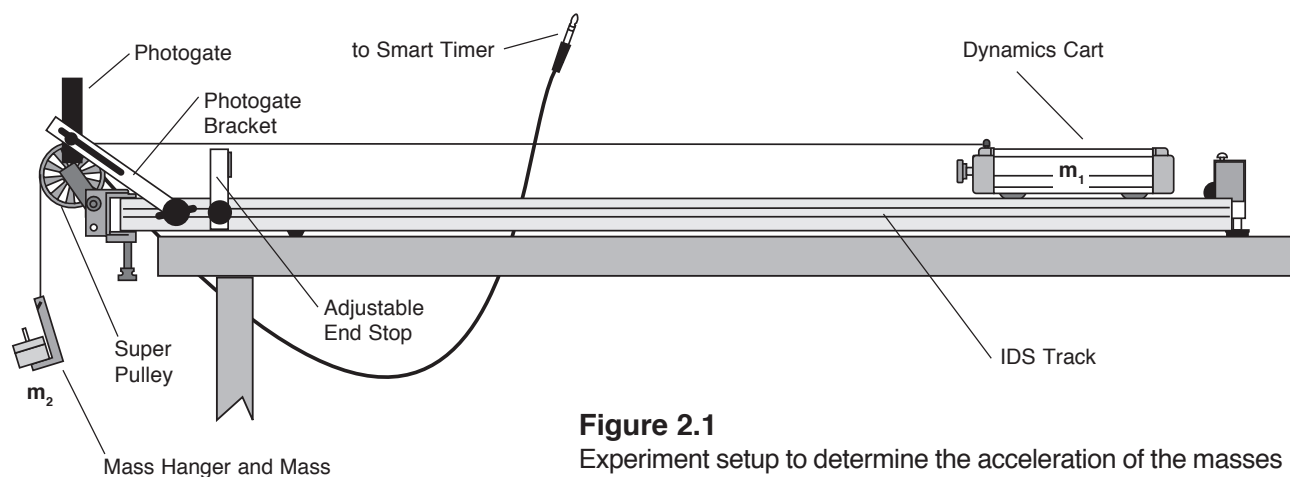

Figure 2.1
Newton's Second Law, $\mathbf{F} = \mathbf{ma}$, is a description of the relationship between \mathbf{F} , the net force acting on the object of mass \mathbf{m} , and \mathbf{a} , the resulting acceleration of the object. For a cart of mass \mathbf{m}_1 on a horizontal track with a string attached over a pulley to a mass \mathbf{m}_2 (see Figure 2.1), the net force \mathbf{F} on the entire system (cart and hanging mass) is the weight of hanging mass, $\mathbf{F} = \mathbf{m}_2\mathbf{g}$, assuming that friction is negligible.
3. Attach the Super Pulley to the end of the track as shown in Figure 2.1.